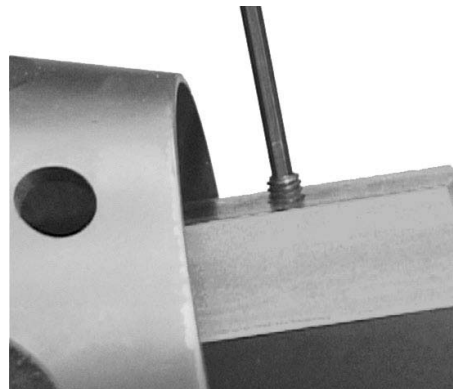

Figure 9-19. Tighten Set Screw.
- Insert the Cone Point Set Screw (17) and tighten to prevent the Adapter from backing off of the Valve Stem. Refer to Figure 9-19.